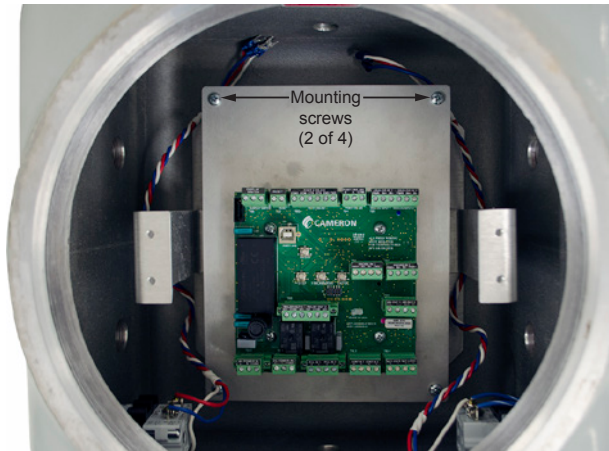

Figure E.10—New circuit board showing mounting screws
8. Insert the new circuit board assembly into the enclosure and secure using the four screws removed in Step 6, as shown in Figure E.10.